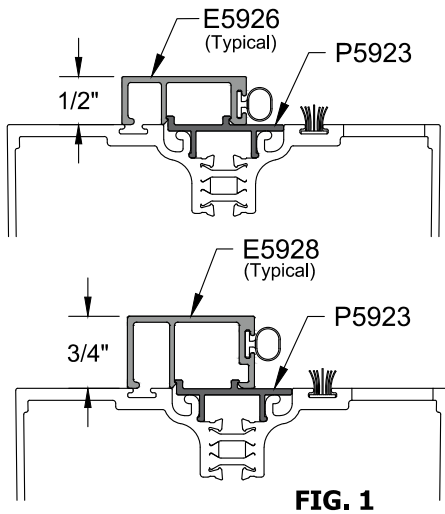
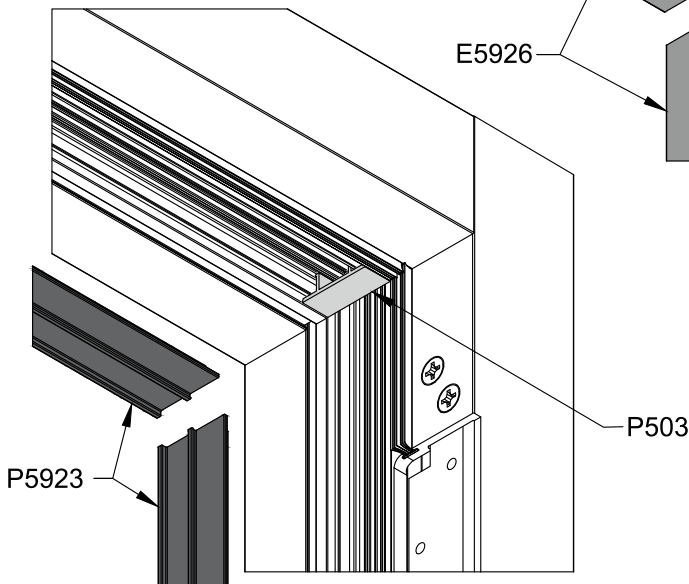

FIG. 1
FIG. 2
1. Install P503 or P503A filler in door frame header at each corner. Correct filler is determined by the height of the vertical door stop in that corner. Use P503 for 1/2" vertical stop, P503A for 3/4" vertical stop. See **FIG. 1** & **FIG. 2**
2. Install all P5923 base door stops in header and jambs. See **FIG. 2**
- Transfer the pre drill hole locations in the door sweep to the interior surface of the bottom rail. See Figure 1.